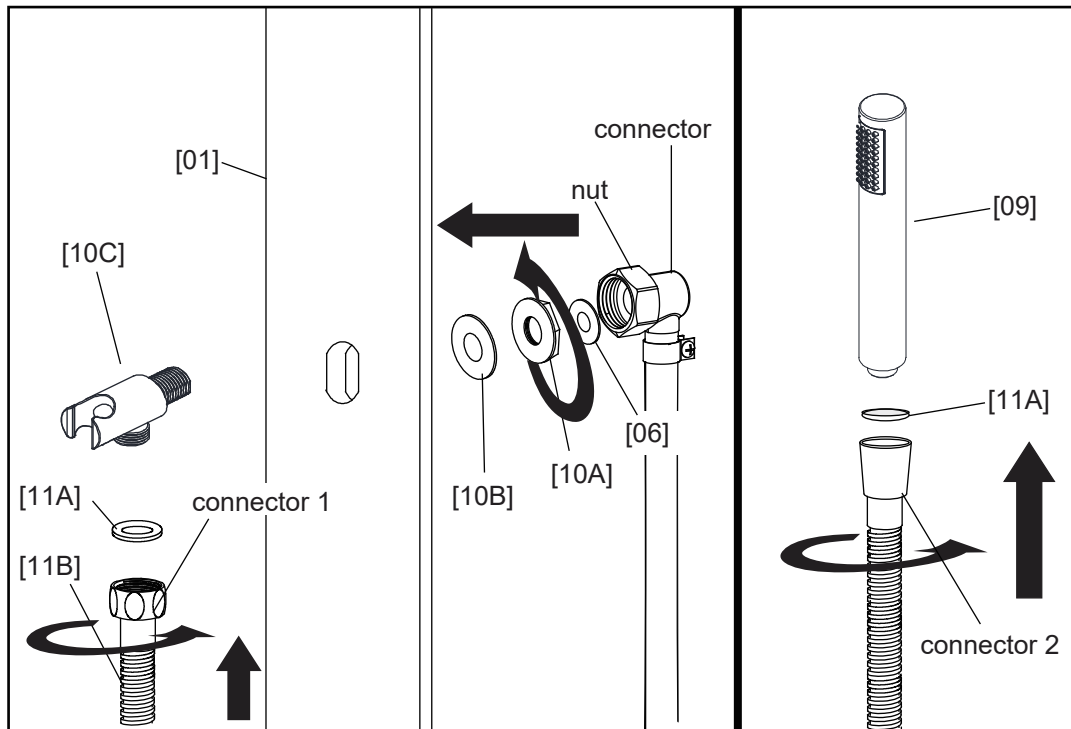
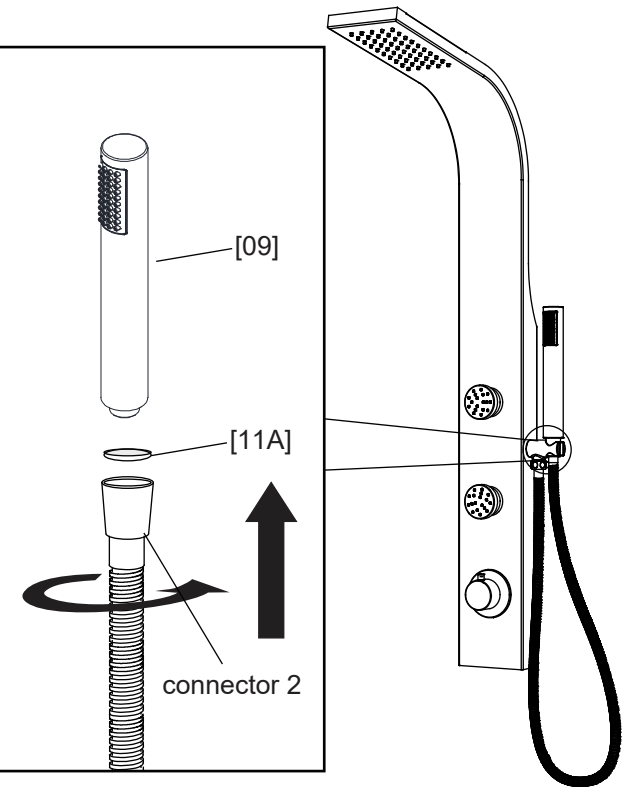

Fig 3.1
Fig 3.2
- 3-1** Install the **Shower Holder [10C]** through the hole from the right of **Shower Panel [01]**. Make sure the shower hose connector faces downward. (Fig 3.1)
- 3-2** Slide the **Washer [10B]** to the **Shower Holder [10C]** from the inside of **Shower Panel [01]** and secure it by tightening the **Nut [10A]**. Do not over tighten. (Fig 3.1)
- 3-3** Install the **connector** with **washer [06]** in it to the **Shower Holder [10C]**. Then tighten the **nut** of the **connector** to secure. (Fig 3.1)
- 3-4** Connect the **connector 1** of **Shower Hose [11B]** to **Shower Holder [10C]** and **connector 2** to **Hand shower [09]**. Tighten the connectors to secure. Make sure there are washers inside the connectors. (Fig 3.1, Fig 3.2)